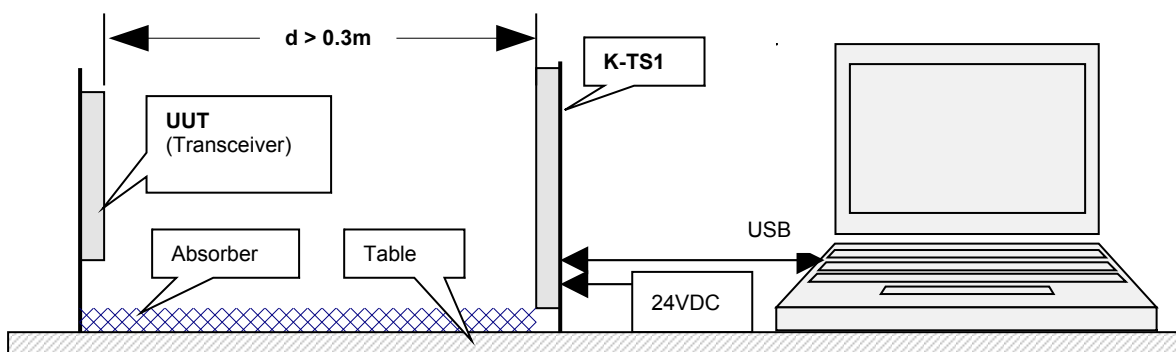

Fig. 3: Typical arrangement of a test-stand
2. Arrange your test environment according to Fig. 3. Absorber is needed particularly for power measurements.
1. Arrange your test environment according to Fig. 3. Absorber is needed particularly for lower distortion of the received sine signal. Reflexions lead to distortions of the doppler sinus and also the phase shift between I and Q channels.
A: If there are reflexions between K-TS1 and your sensor, Doppler signals will become distorted. Please use an arrangement like shown in Fig. 3 or let enough free room around the „beams“.